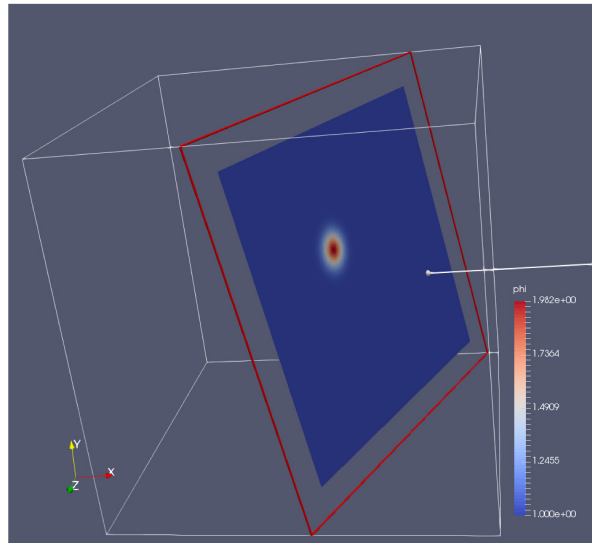

Fig. 18.1: : Plotfile image generated with ParaView
- You can play with the Plane Parameters to define a plane of data to view, as shown in Fig. 18.1.